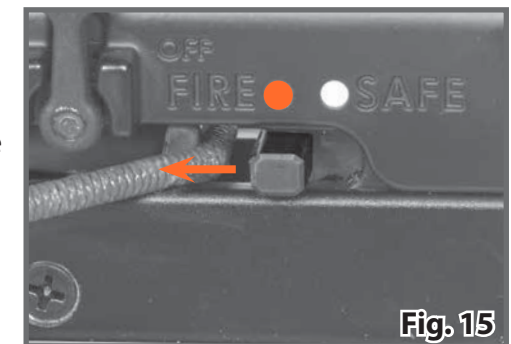

Fig. 15
3. Slide the safety switch from the ON SAFE position to the FIRE position. (Fig. 15)
8. Continue drawing until the trigger safety switch moves to the "ON SAFE" position. (Fig. 15)